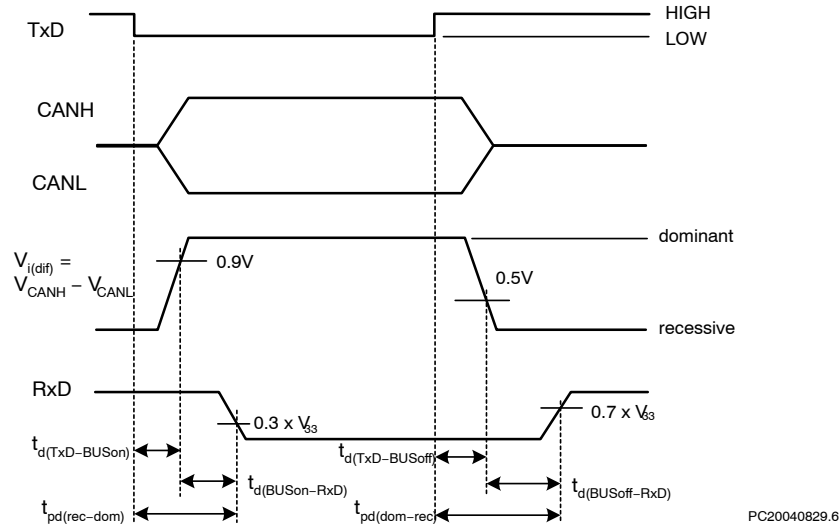

Figure 6. Timing Diagram for AC Characteristics
**TIMING CHARACTERISTICS (See Figures 6 and 7)**